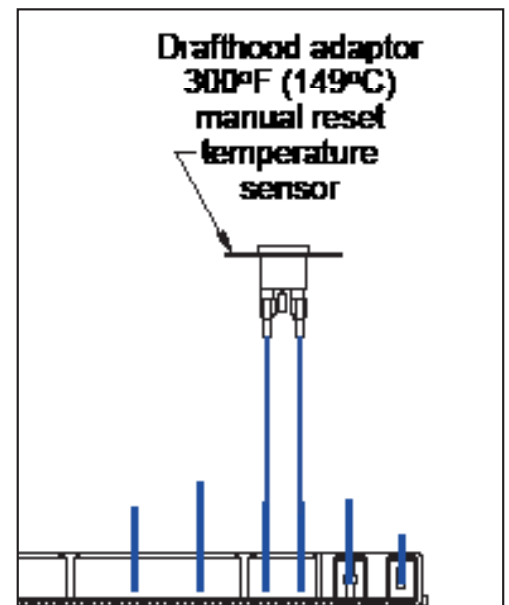

Figure 45: Spill Switch Wiring Diagram
Step 5: Insert the stripped spill switch wires into the ON/OFF terminal block and tighten the set screws. Note, there is no polarity to the spill switch wires so it will work in either position of wires (Figure 45).